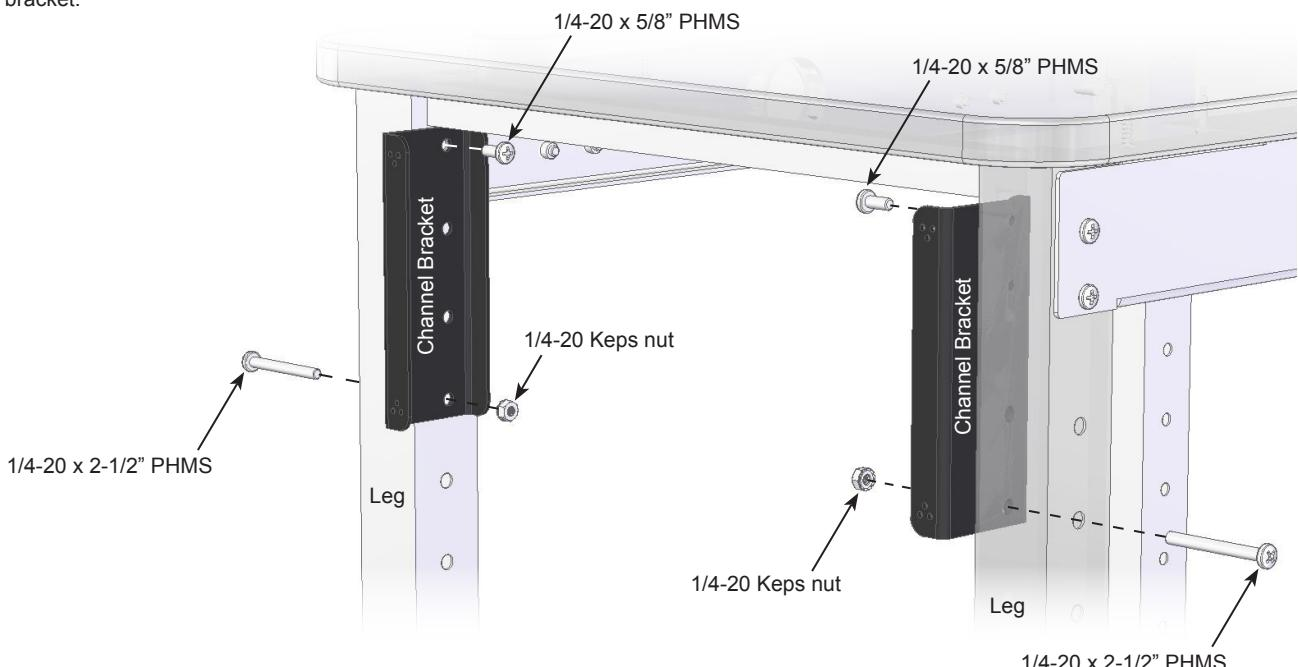

Figure 1
2. Align each channel bracket with the leg mounting holes. **Figure 1.** (The two sets of 3 smaller holes will face outward.)
3. Install (1) 1/4-20 x 5/8" PHM screw at the top of each bracket.
4. Install (1) 1/4-20 x 2-1/2" PHM screw and Keps nut on the bottom of each bracket.